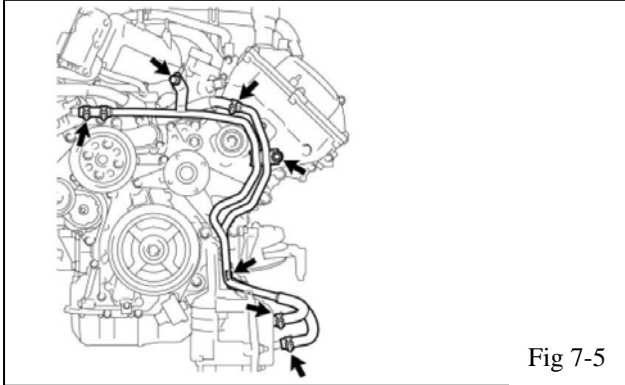

Fig 7-5
- (e) Remove the 3 bolts and 4 hoses and then remove the water by-pass pipe assembly (Fig 7-5). When the lower hoses are disconnected, they will be full of coolant. Drain this coolant into a clean container for reuse.
- (d) Mount the oil cooler hard coolant lines (C1) to the M6 X 30 mm allen stud using the supplied M6 nut (C5) and the hoses at the top removed in step 7(f) using the OE clamps (Figs 7-5 & 10-3). Leave the nut finger tight.
- (e) Attach the coolant OE hoses from the oil cooler to the lower ends of the hard coolant lines (Figs 7-5 & 10-4). Secure both ends of these hoses with the OE clamps.